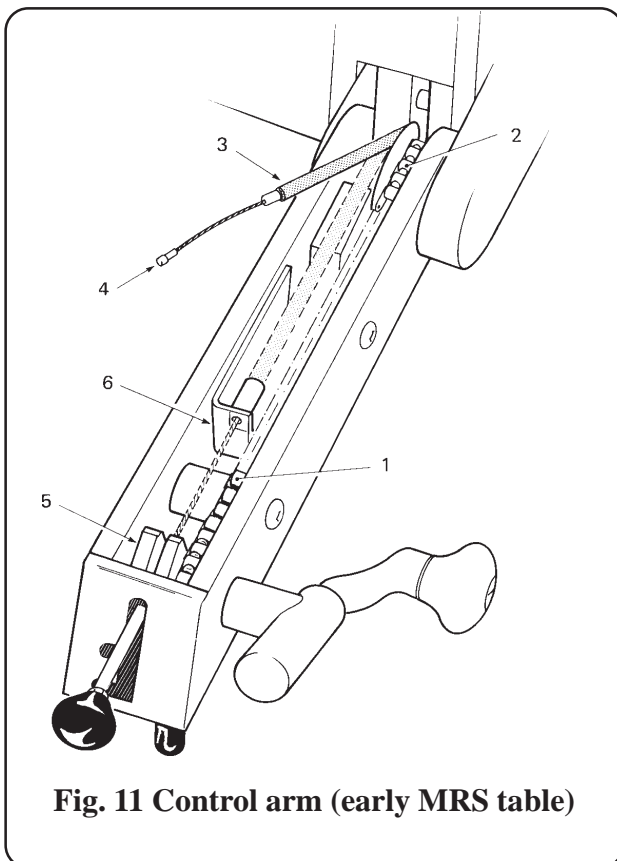
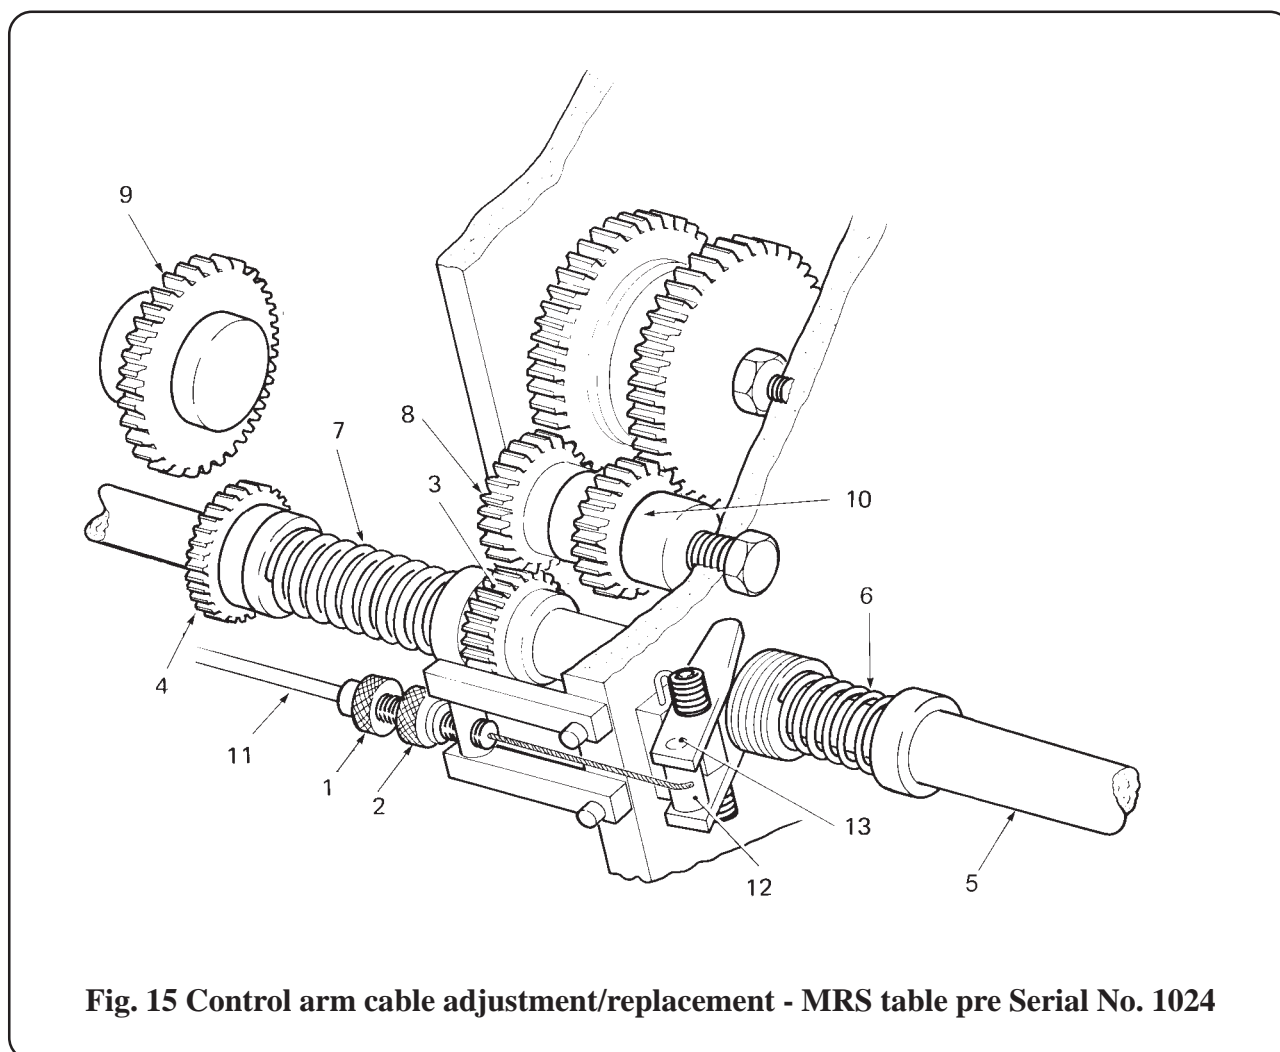

Fig. 11 Control arm (early MRS table)
Fig. 15 Control arm cable adjustment/replacement - MRS table pre Serial No. 1024
4.20 The control arm of early tables were cable operated and were fitted to tables with Serial Number 1023 or earlier. Refer to Fig. 11 and remove the control arm cover, then:
- i Check chain links (1)
- ii Check gears and keys (2)
- iii Ensure lubrication of cable (3)
- iv Check cable bends and cable nipples (4) (also see Fig. 15).
4.31. The control arm gear lever operates the table top movement selection mechanism in the gearbox by means of a flexible cable assembly (3, Fig. 11). If movement selection fails to function correctly while the table is in use, immediate action must be taken to engage the standby controls. The fault symptoms can be any of the following:
- ii Refer to Fig. 15 and locate adjusting screw (1) beneath upper trunk section.
- iii Slacken thumb nut (2).
- iv Check that selector gears (3) and (4) slide freely on the main shaft (5) and that the return springs (6) and (7) function correctly.
- v Check that the selector gear (3) is in full mesh with the idler gear (8); if necessary turn the adjusting screw (1) in the direction required to achieve this condition.
- vii Check that the selector gear (4) is in mesh with the drive gear (9) and that the selector gear (3) is completely disengaged from both
- iii If the ferrule at one end of the inner cable has sheared-off, the inner cable will be loose and the opposite end may be disconnected from its control arm pivot (5, Fig. 11) or cable pivot (12, Fig. 15).
- iv Withdraw outer cable from cable holder (6, Fig. 11) and from the adjusting screw (1, Fig. 15). Remove cable assembly from control arm.
- viii Pass the ferrule at the opposite end through the adjusting screw (1, Fig. 15) and locate the end of the outer cable in the adjusting screw.
- ix Connect the ferrule to the cable pivot (12, Fig. 15).
- xii Press the selector lever (13, Fig. 15) to the left.